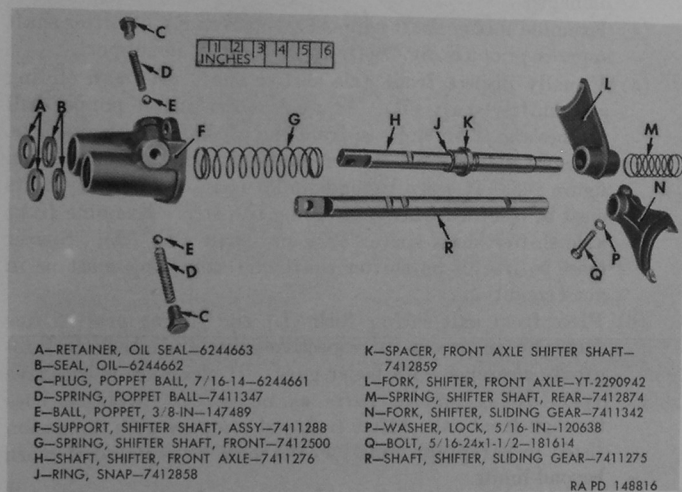

Figure 79. Transfer shifting mechanism components.
*Note.* Key letters noted in parentheses are in figure 79 unless otherwise indicated.
Shifting mechanism, consisting of the components shown in figure 79, is disassembled to the extent shown. Front axle shifter shaft
- (1) *Shifter shaft spacer.*—If inspection indicates necessity for replacing front axle shifter shaft spacer (K, fig. 79), remove snap ring (J, fig. 79) with snap ring pliers and slide spacer off front end of front axle shifter shaft (H, fig. 79). Slide new spacer on shifter shaft with flange toward rear end of shifter shaft. Install new snap ring (J, fig. 79) in groove in shifter shaft.
- (2) *Shifter shaft support pilot.*—If inspection indicates that shifter shaft support pilot (N, fig. 54) requires replacement, remove pilot from shifter shaft support assembly (F, fig. 79) and press new pilot into recess, with counterbore in pilot facing outward.